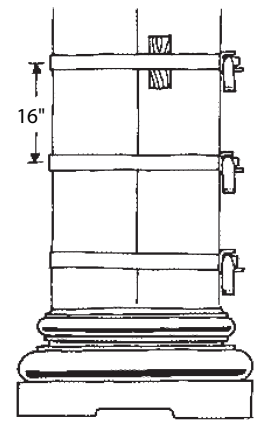

FIGURE 8-6
5. Position band clamps 12"-16" apart along the full height of the shaft. Use carpet strips under clamps to prevent damage and use blocks opposite areas of expansion to pull shaft into round (Fig. 8-6). Tighten clamps to 80 pounds per square inch (psi). Use a rubber mallet where necessary to get the two sides of the seam to line up.